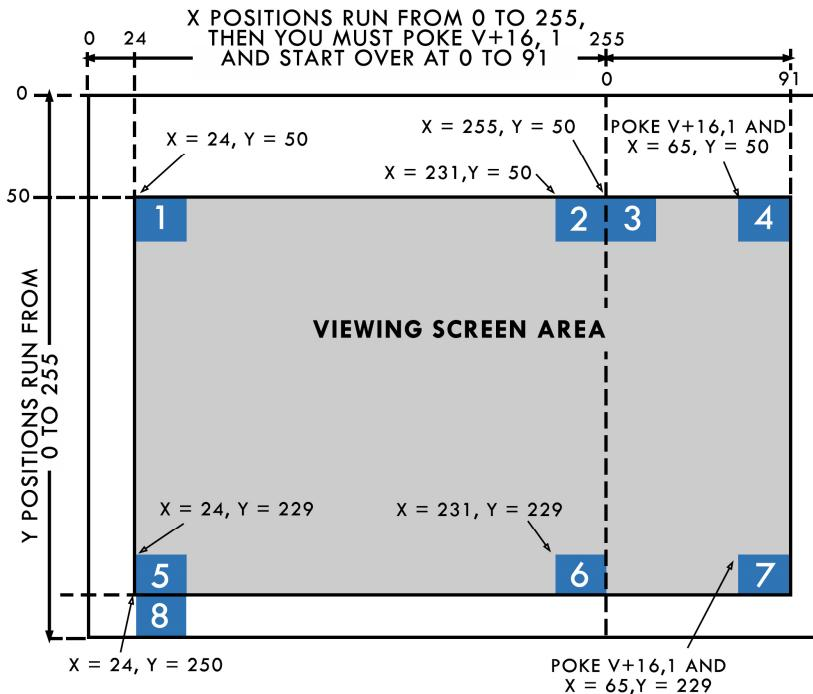

FIGURE 3-5. DETERMINING X-Y SPRITE POSITIONS
To understand how X-Y positioning works, study the following diagram (Figure 3-5), which shows the X and Y numbers in relation to your display screen. Note that the GREY AREA in the diagram shows your television viewing area... the white area represents positions which are OFF your viewing screen...
X VALUES BEYOND THE 255TH POSITION: To get beyond the 255th position across the screen, you need to make a SECOND POKE using the numbers in the "RIGHT X" row of the chart (Figure 3-5). Normally, the horizontal (X) numbering would continue past the 255th position to 256, 257, etc., but because registers only contain 8 bits we must use a "second register" to access the RIGHT SIDE of the screen and start our X numbering over again at 0. So to get beyond X position 255, you must POKE V+ 16 and a number (depending on the sprite). This gives you 65 additional X positions (renumbered from 0 to 65) in the viewing area on the RIGHT side of the viewing screen. (You can actually POKE the right side X value as high as 255, which takes you off the right edge of the viewing screen.)